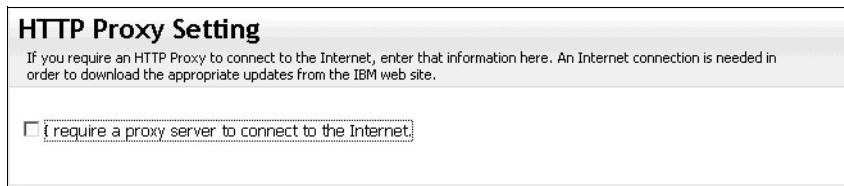

Figure 6-17 UXSPI HTTP Proxy Settings panel
8. Enter the settings for an HTTP proxy server, if necessary, or leave the check box clear, as shown in Figure 6-17. Then, click **Next**.